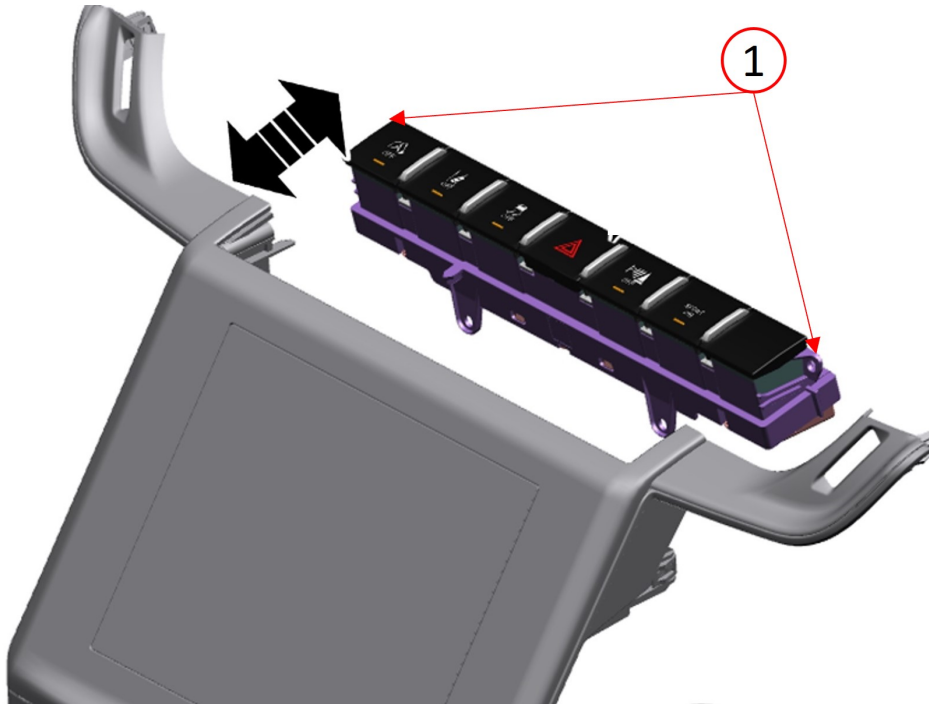

Fig. 1
3. Loosen the two switch bank upper mounting screws (Fig. 1) only 1/4 of a turn at a time until the buttons are found to function normally.